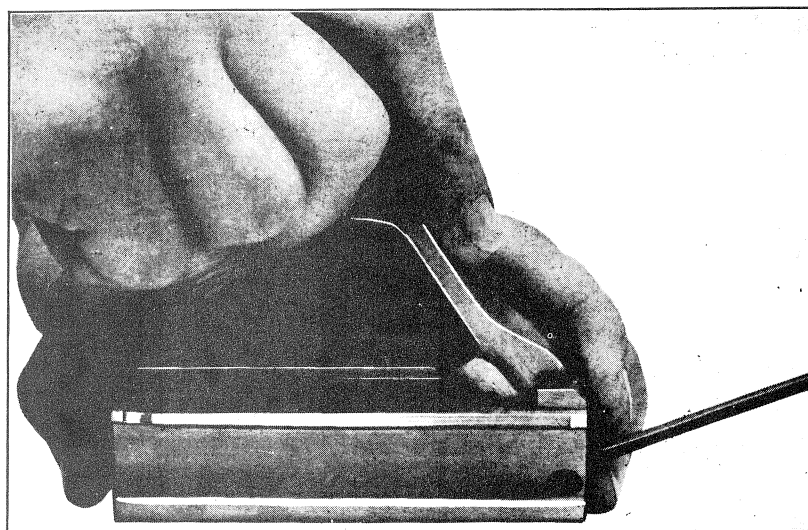

Fig. 138
- Replace the bolt in the slide. Insert the rear end of the bolt obliquely in the slide (fig. 138). Depress the bolt in order to compress the firing pin slightly and swing the bolt downwards in order to replace it in the bolt slide.